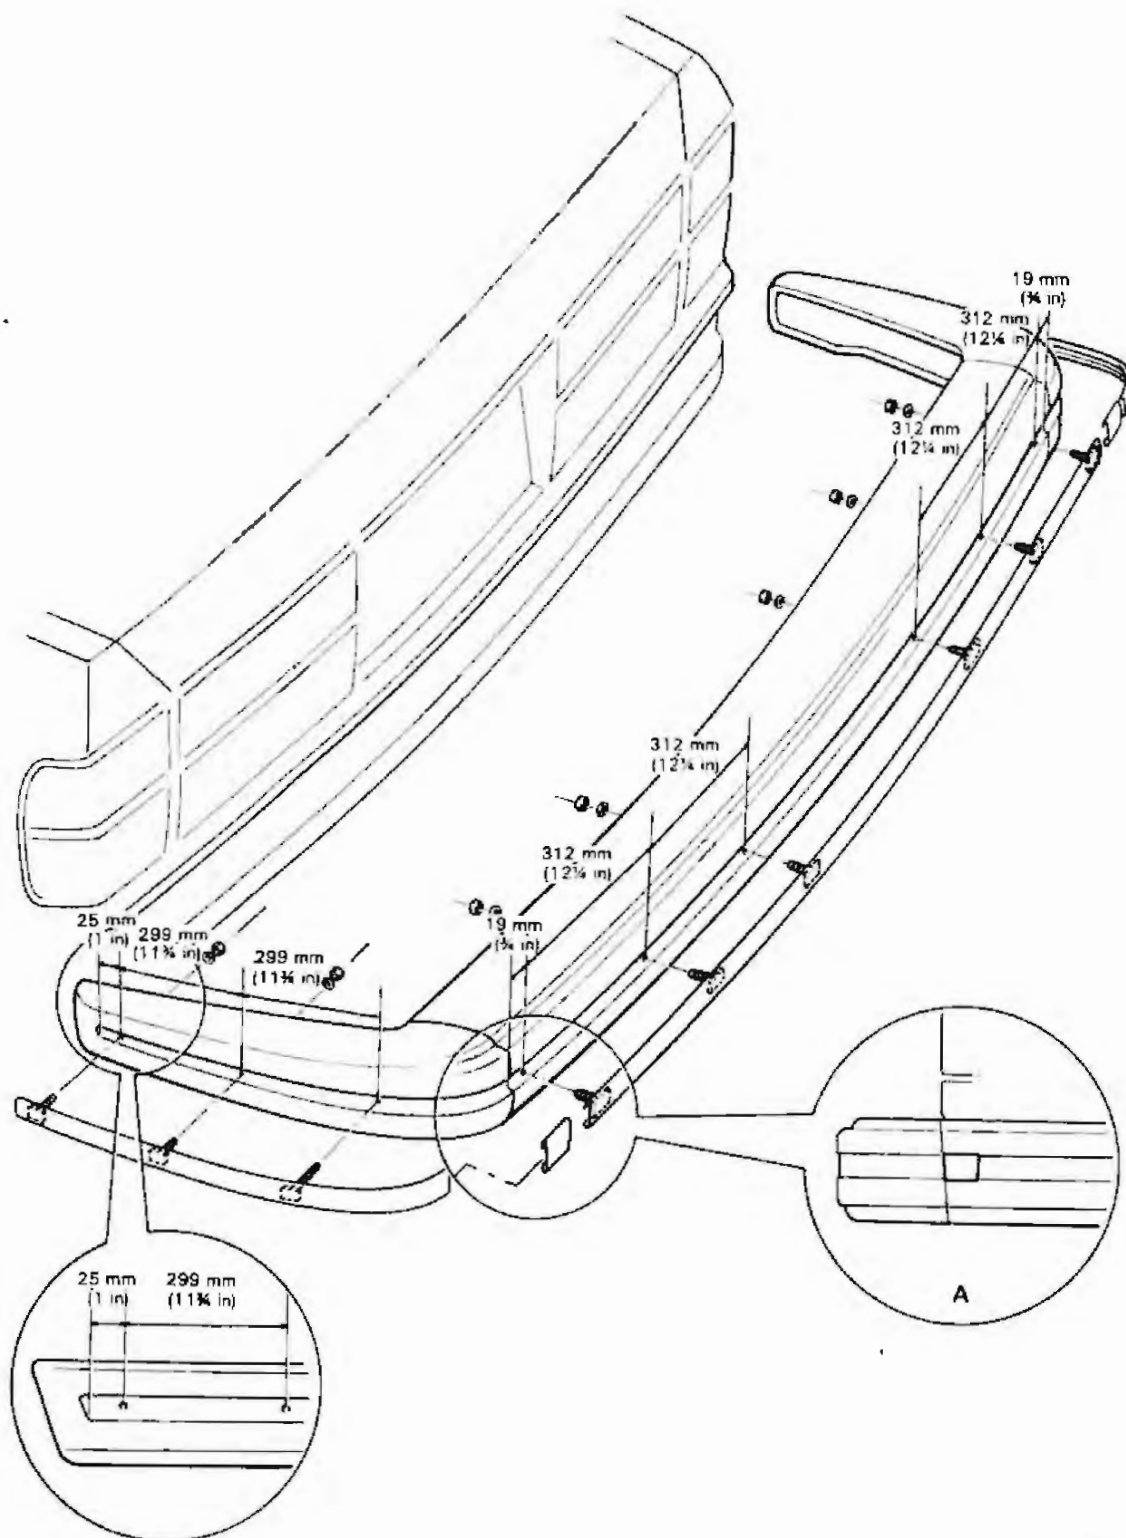

Fig. 3
- d Mark off the positions for the holes to be drilled in the centre of the recess, in the rear and side mouldings (see fig. 3).
The measurements for the centre section of the bumper are taken from the corner-to-centre section joints; at each end, measuring inwards. On the corner sections, measurements are taken from the bottom of the corner moulding recess edge towards the corner (see fig. 3).
- f Fit the finisher strip trims half-way onto the ends of the rear finisher strip, with the taper pointing downwards (see fig. 3, Inset A).
- j Position the finisher strip trims in line with the rear to corner mould joint seams (see fig. 3, Inset A).